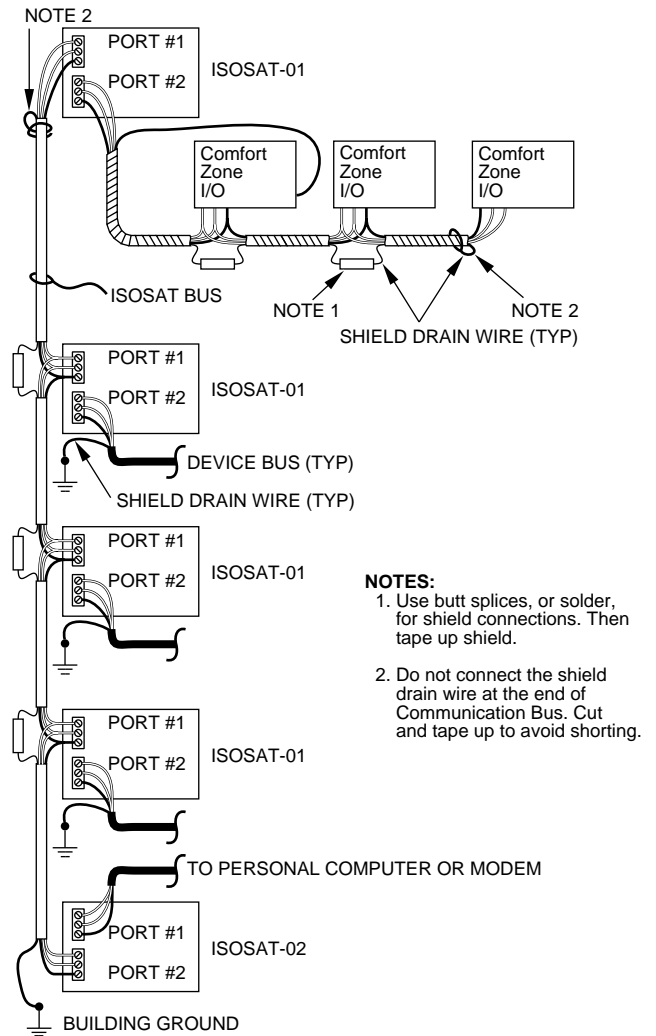

Fig. 4—Communication Network With An ISOSAT-02
4. Multiple device buses can be tied together for communication via ISOSAT-01. An ISOSAT-02 is required for remote or direct communications via personal computer or modem. (See Fig. 4.)